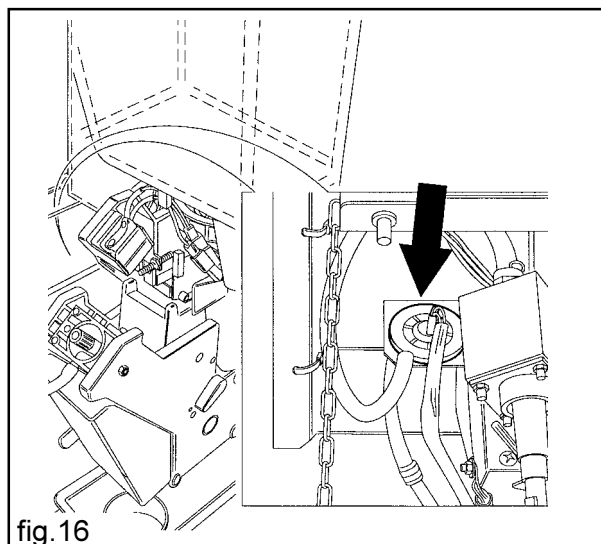

fig. 16
- The pump that delivers the required amount of water -controlled by a special electronic device (volumetric counter)- starts up, withdrawing the water from the coffee boiler (fig. 16).